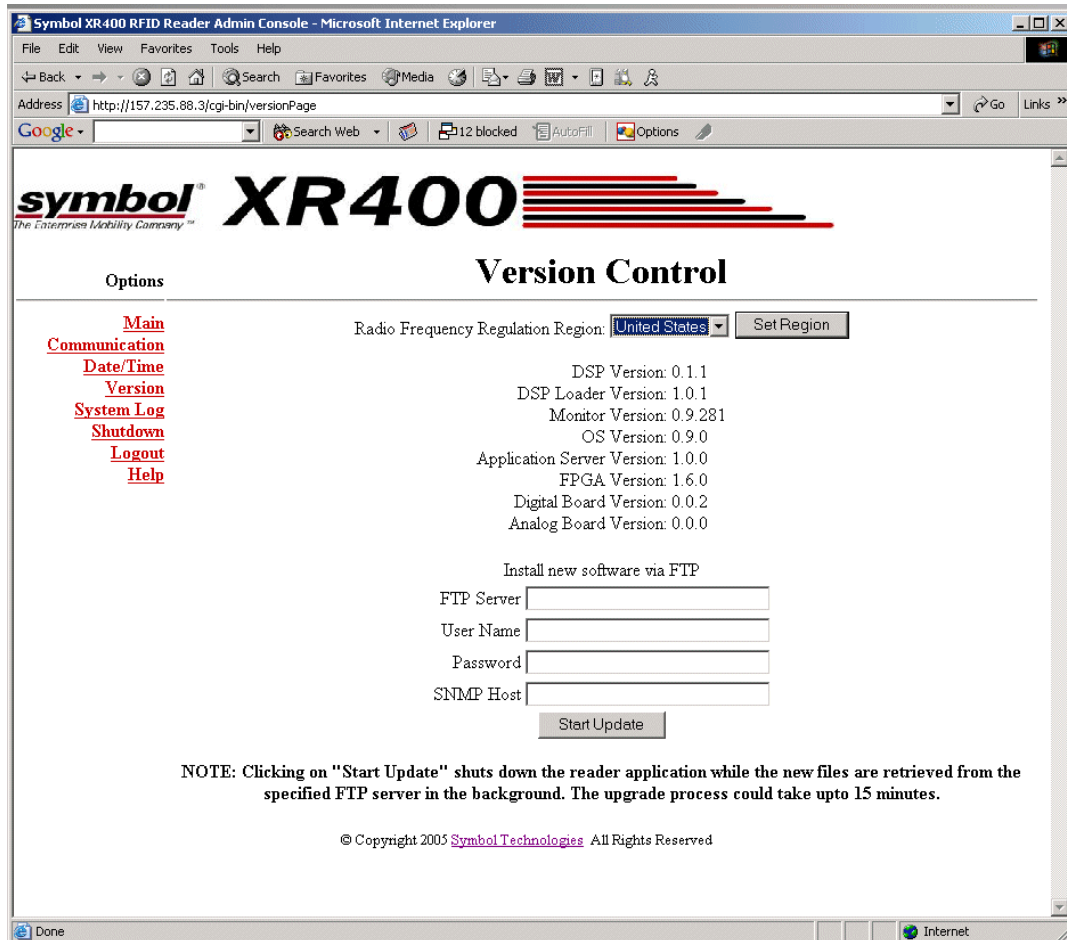

Figure 4-4. Version Control Window
2. Click **Version**. See Figure 4-4 for the *Version Control* window.